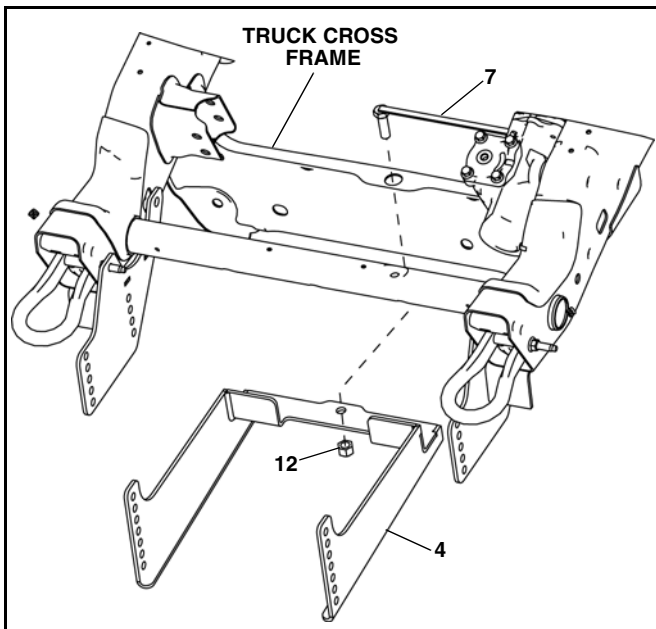

Figure 2
10. Position item #4 under the truck's cross frame. Insert item #7 into the cross frame through the top and into the hole located in the middle. Slide item #4 over item #7 and loosely attach with item #12. (See Figure 2.)